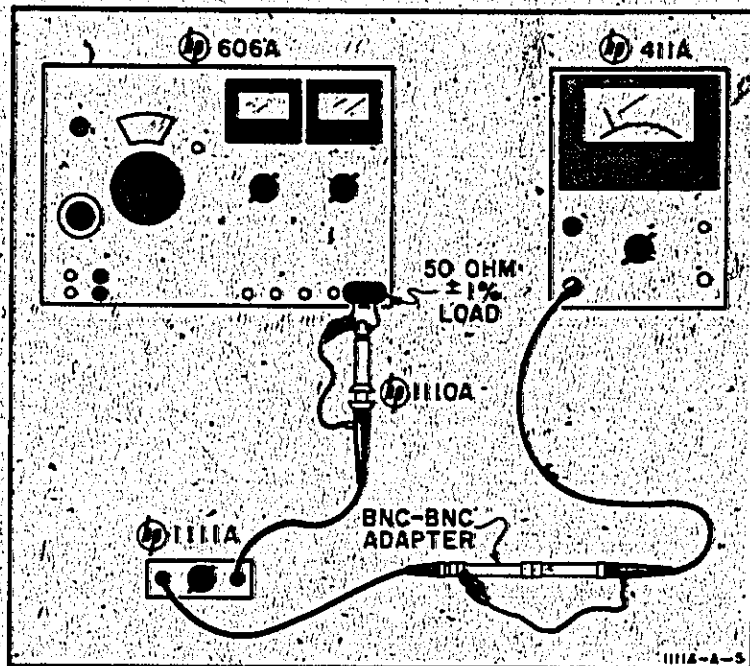

Figure 5-3: Signal Generator - RF Millivoltmeter Test Setup
h. Disconnect test setup. Refer to Figure 5-3 and Table 5-1 and connect test equipment specified, using items 1, 3, 5 and 9.